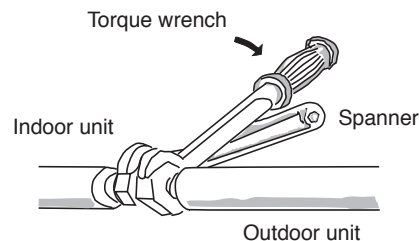

Fig. 21
- Tightly connect the indoor side refrigerant tubing extended from the wall with the outdoor side tubing. (Fig. 21)